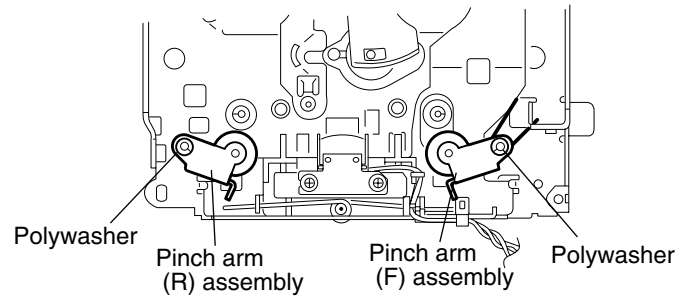

Fig.13
■ Removing the pinch arm (F) assembly (See Fig.13 and 14)
1. Remove the polywasher and pull out the pinch arm (F) assembly.
■ Removing the pinch arm (R) assembly (See Fig.13 and 15)
1. Remove the polywasher and pull out the pinch arm (R) assembly.